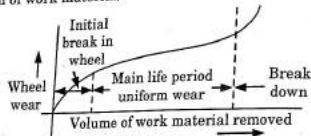

Fig. 3.9.1.
1. Fig. 3.9.1 shows how a grinding wheel wears with more and more grinding (removal of work material).